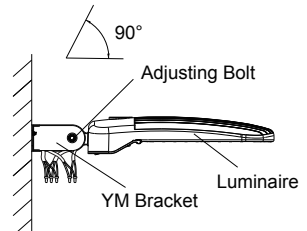

Figure 16
Step 3: Connect the fixture to the bracket and tighten the screws; connect the wires properly and put them into junction box. (Figure 16)
Notice: Adjustable angle is 0-90°(Figure 16)